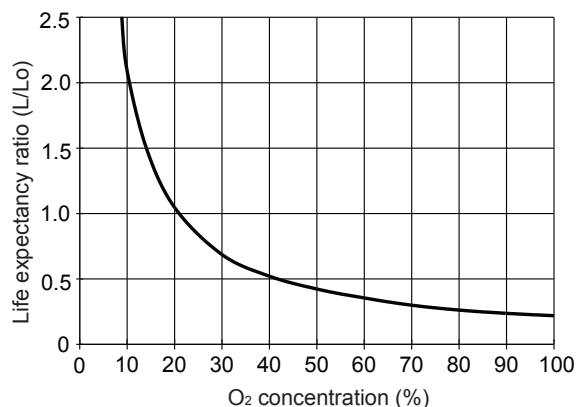

Fig. 9a - Relationship of life expectancy vs. O2 concentration (Lo = life at 20.7% O2)
Figure 9a shows the relationship between life expectancy and O2 concentration for KE sensors. The Y-axis indicates the ratio of life expectancy in a given O2 concentration (L) to life expectancy in natural air (L0). The greater the O2 concentration, the shorter the life expectancy. The influence of atmospheric pressure on life expectancy is estimated based on the O2 concentration in a given atmospheric pressure.